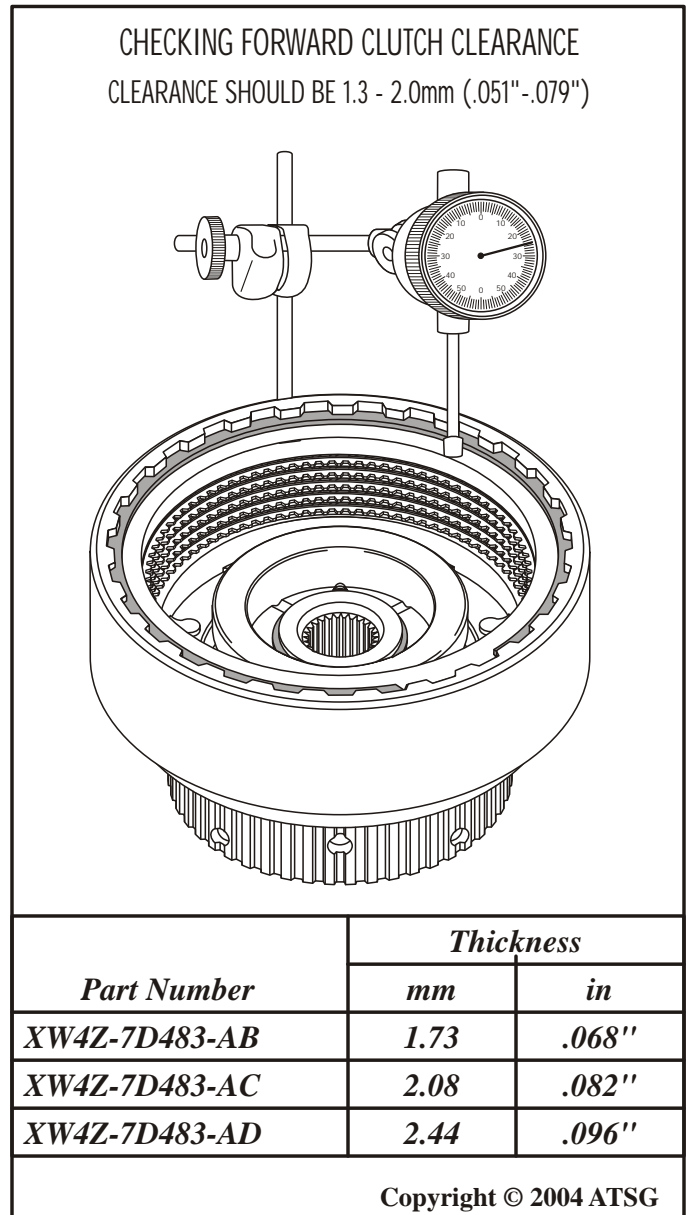

Figure 91
14. Install dial indicator on top of backing plate, as shown in Figure 91, and check the amount of forward clutch clearance. Clearance should be 1.3 - 2.0mm (.051" - .079") (See Figure 91).
15. Change the selective backing plate snap ring as necessary, using the chart in Figure 91, to get the proper forward clutch clearance.